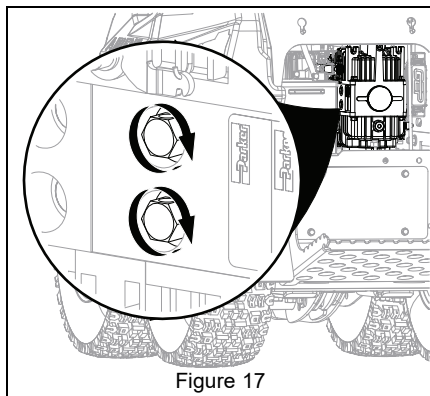

Figure 17
5. Turn both bypass valves two complete turns clockwise to the operating position. Torque to 18.1 – 22.6 N•m (13.3 – 16.7 lb-ft). See Figure 17.